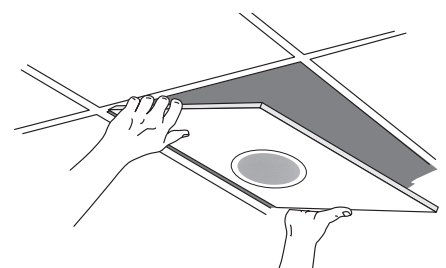

Figure 8
7. Connect speaker wires and re-insert completed ceiling tile. See Figure 8.